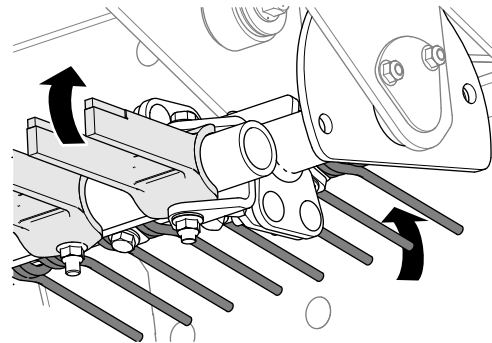

Figure 37
5. Rotate the multi-tool arm to select a set of plow tines (Figure 37).